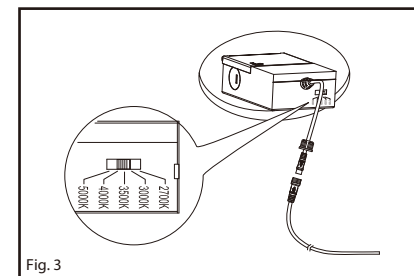

Fig. 3
5. Connect junction box to recessed LED panel with the quick lock connector. (Fig. 3)
6. Move the slide switch to your appropriate light color (2700K /3000K /3500K /4000K /5000K). Place junction box into the ceiling through cut-out. (Fig. 3)